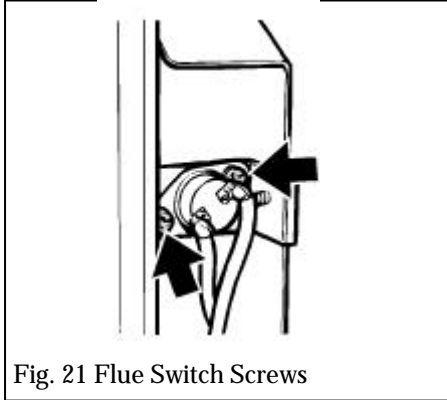

Fig. 21 Flue Switch Screws
16.12.3 Detach the flue switch from the right side of the downdraught diverter by removing two screws (Fig. 21).
16.13.11 Detach the flue switch from the right side of the downdraught diverter by removing two screws (Fig. 21).